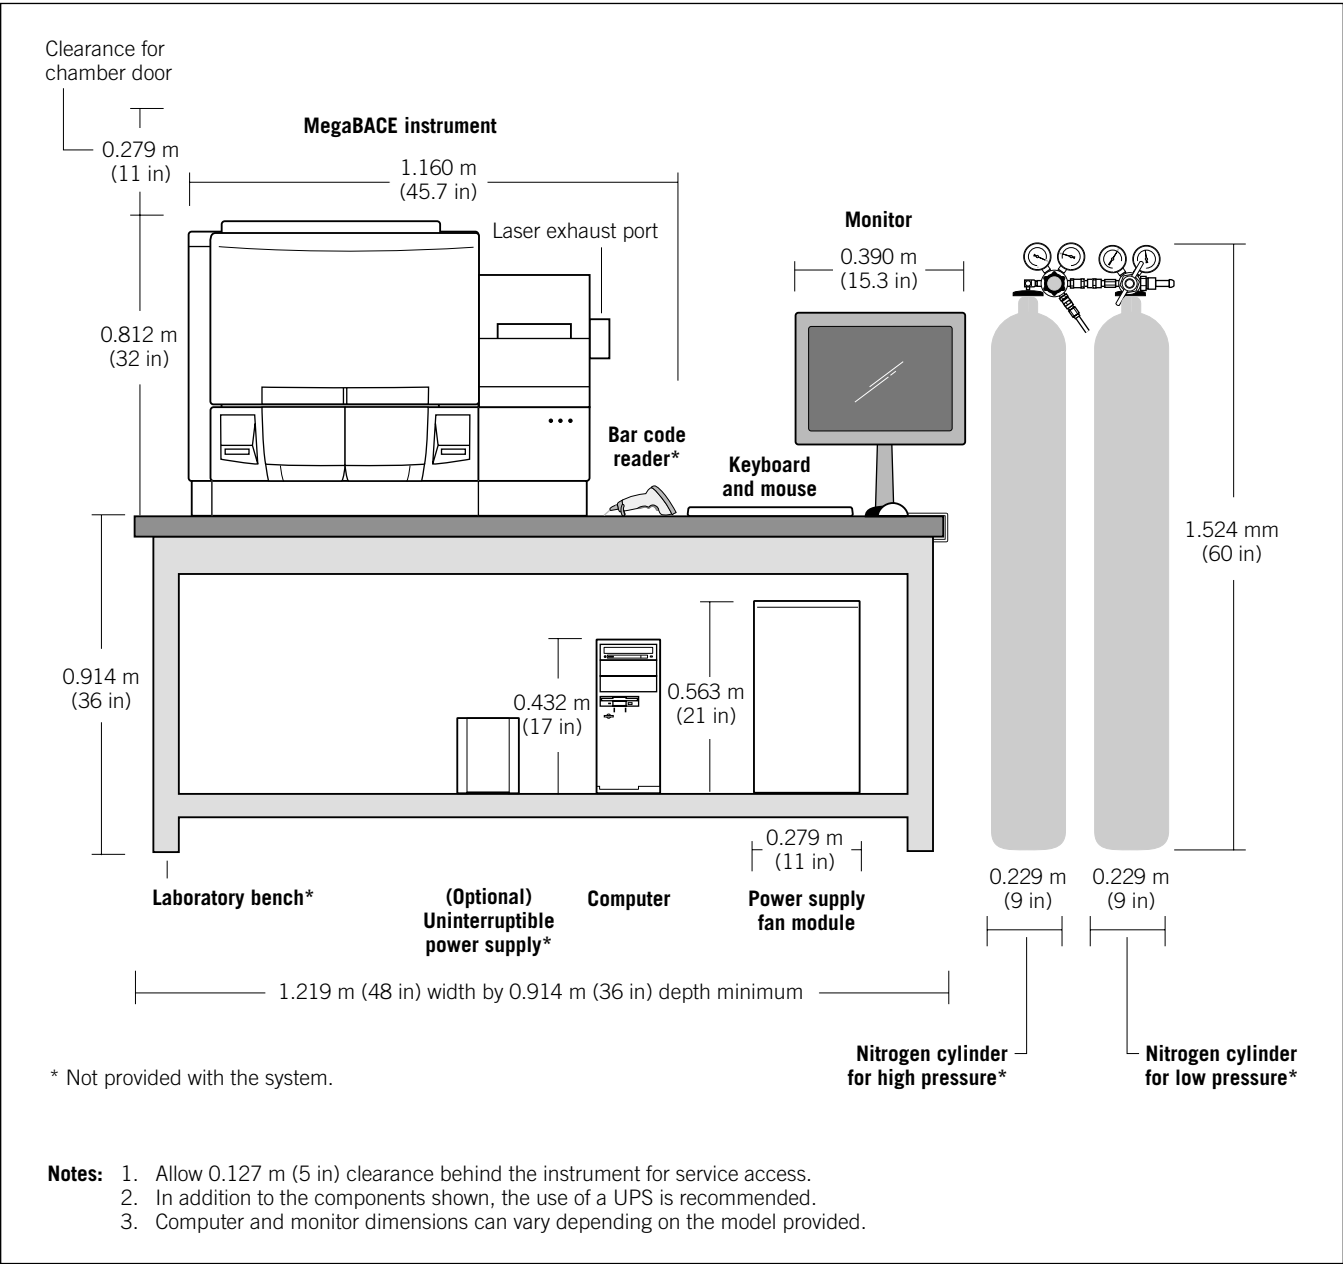

Figure 2-1. The MegaBACE system space requirements.
- 0.127 m (5 in) clearance for the laser exhaust port hose (figure 2-1)
See figure 2-1 for details on space requirements.
The laboratory bench or table you use must be rated to hold at least the combined weight of the components (shown in figure 2-1). The approximate weights of the components are—
In addition, you should provide sufficient space to meet or exceed the requirements defined in figure 2-1.
A standard power supply fan module is supplied with the instrument (figure 2-1). If you vent the laser exhaust into the room, the rate of heat energy production for each instrument is approximately 10 300 BTU. To reduce heat buildup in the instrument room to approximately 4 100 BTU per instrument, you can vent the exhaust into the ceiling space or outside the building if local safety and building codes permit.
The airflow requirement is 1.557 m³/min (55 ft³/min) minimum at 0.038 m (1.5 in) H₂O static pressure at the laser exhaust port on the instrument (figure 2-1).